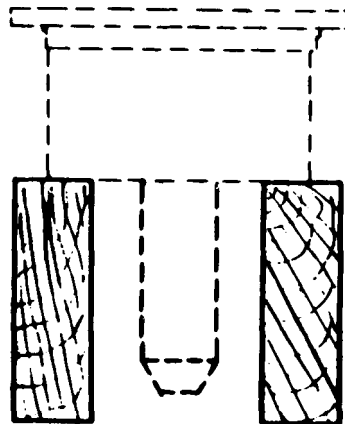

Figure 3
1. Remove bonnet and poppet assembly from valve and place on wooden blocks. (See Figure 3.)
1. Rest the bottom of the poppet on blocks. (See figure 3.)